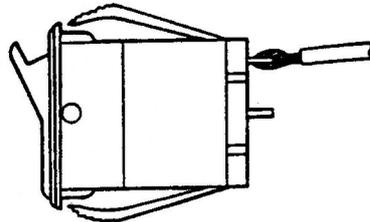

FIGURE 5
a) **THREE-TERMINAL SWITCH:** Thread either lead through the hole in either outside terminal and crimp it with the pliers, so that the lead forms a loop around the end of the terminal (Figure 5). Attach the other lead to the middle terminal in the same way.
TWO-TERMINAL SWITCH: Clean the terminals of the switch with an eraser; then tin them. Then thread one lead through each terminal and crimp it with pliers, to form a loop around the end of the terminal as in Figure 5.